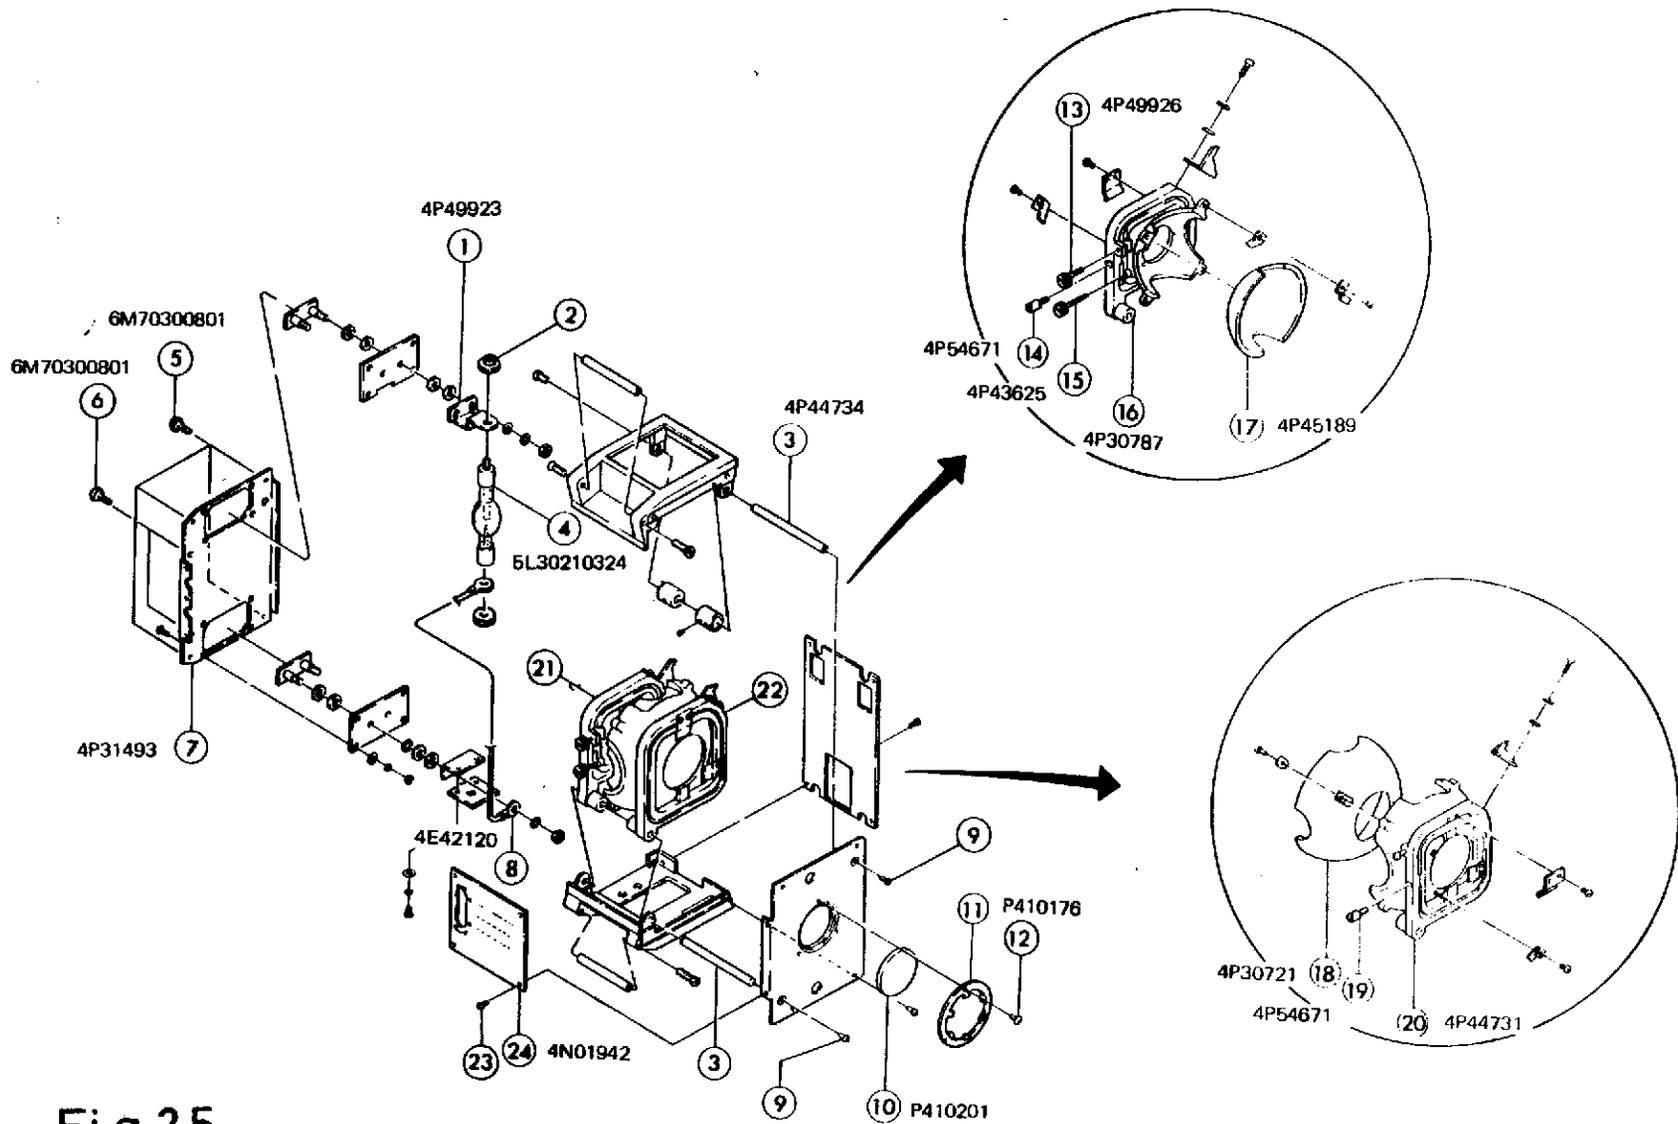

Fig.25
TROUBLESHOOTING: Refer to Fig. 25.
2. Remove (8).
3. Unscrew (2) to remove (4).
4. Unscrew (23) x 4 to remove (24).
5. Unscrew (5) x 4, (6) x 2 to remove (7).
6. Unscrew (9) x 2. Pull (3) x 2 out to remove (21)(22).
7. Referring to Fig. 25, disassemble further.